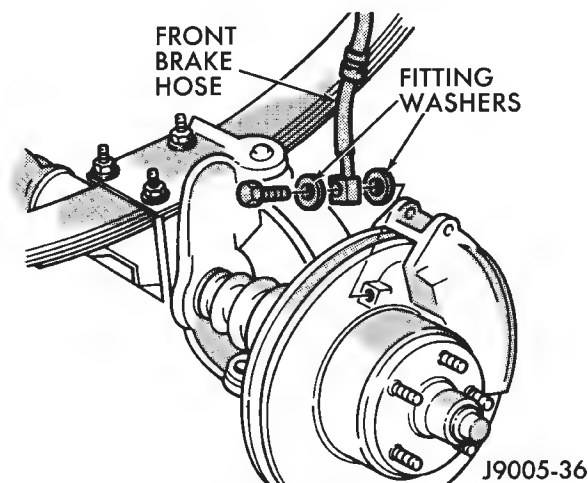

Fig. 25 Front Brake Hose And Fitting Components
- (2) Connect brake hose to caliper but do not tighten fitting bolt completely at this time. **Be sure to use new gaskets on fitting bolt to avoid leaks (Fig. 25).**